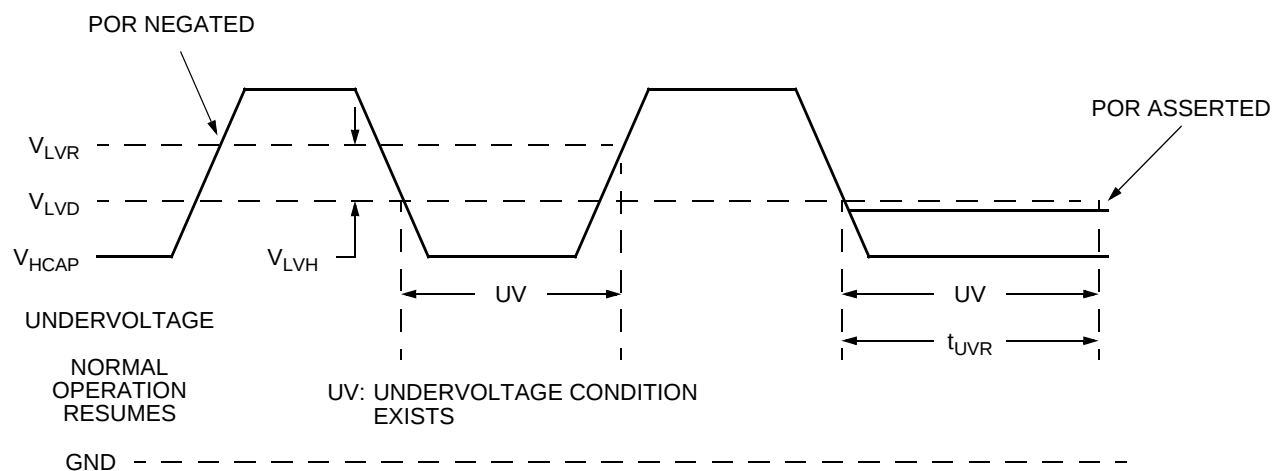

Figure 5-1.  $V_{HCAP}$  Undervoltage Detection
| 120 | VHCAP Undervoltage Reset Period(see Figure 5-1)$V_{HCAP} < V_{RA}$ to POR assertion           | $t_{UVR}$     | 0.95 | 1.0   | 1.05 | ms          | (8) |